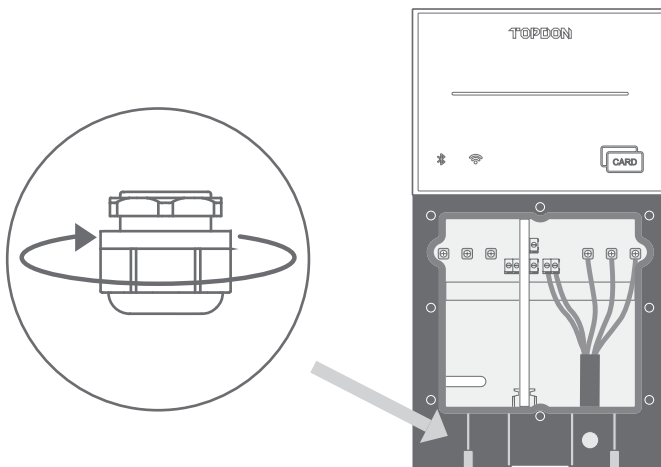

Fig. 4-12
3. Remove the gland at the bottom right of the charger. You can use a large wrench if needed. (See Fig. 4-12)